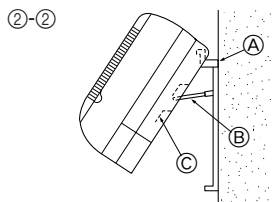

Fig. 3-6
- ②-② Lift the indoor unit by hooking the supporting piece (attached to the mount board) to the ribs on the back of the unit as shown. (Fig. 3-6)